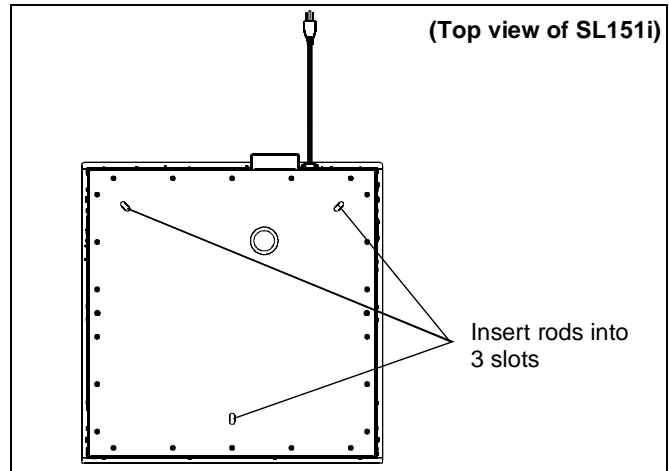

Figure 7
3. Turn SL-151i over and place onto threaded rods, inserting the rods into the three slots on top of the SL-151i housing. (See Figure 7)